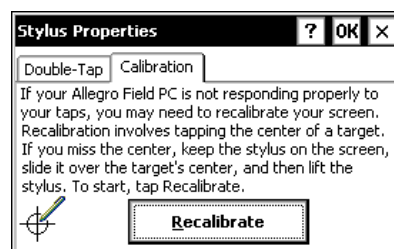

Figure 1-17. Recalibrate Touchscreen
- 2 Tap **Recalibrate** (Figure 1-17) and then follow on-screen prompts to recalibrate the touchscreen.